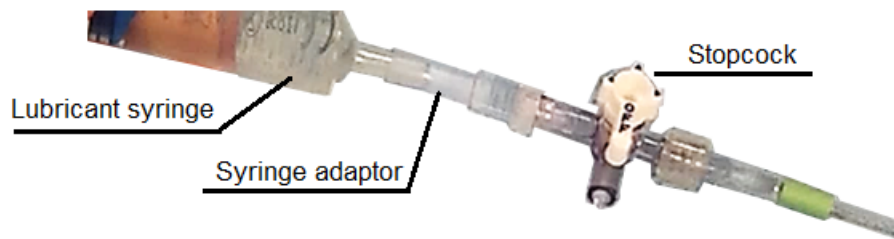

Figure 18: Lubricant syringe with adaptor and stopcock
1. Connect a three-way stopcock and the syringe adapter to both the green and black-labeled channels (*Figure 18*).
2. Connect low-viscosity lubricant syringes to the syringe adapters by pressing the taper on the syringe into the syringe adapter tubing (*Figure 18*).